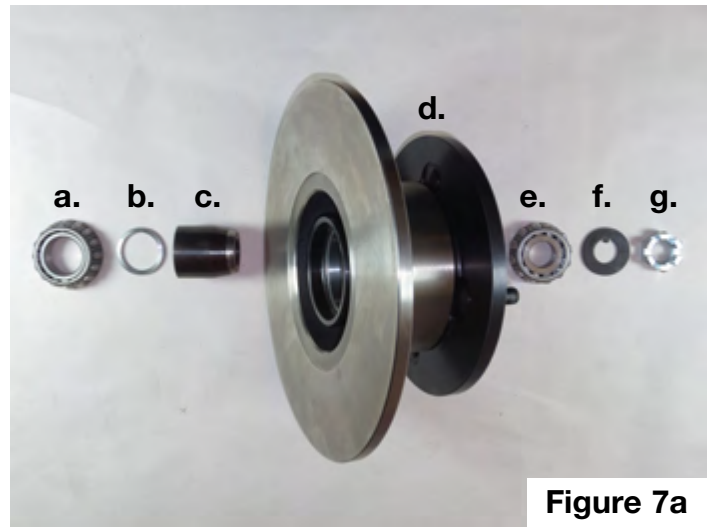
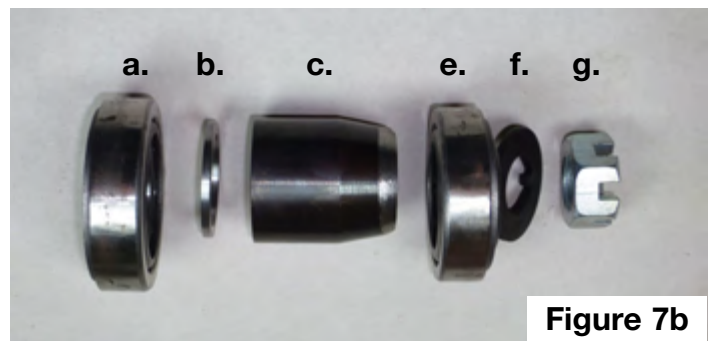

Figure 7a
Figure 7b
- g. Castle nut provided with roller bearing kit. The factory nut will not allow the cotter pin to fit. Do not tighten the nut at this time, just finger tight will do. Figure 7a shows how the parts stack up with bearing races pressed into the hub. Figure 7b shows the stack without the hub in the picture.